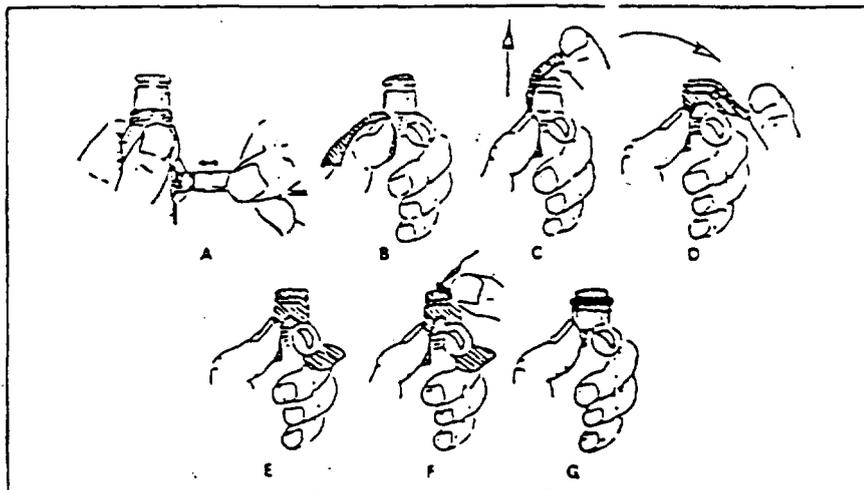

Figure 1
3. Fill the probe with electrolyte as follows (see Figure 1):